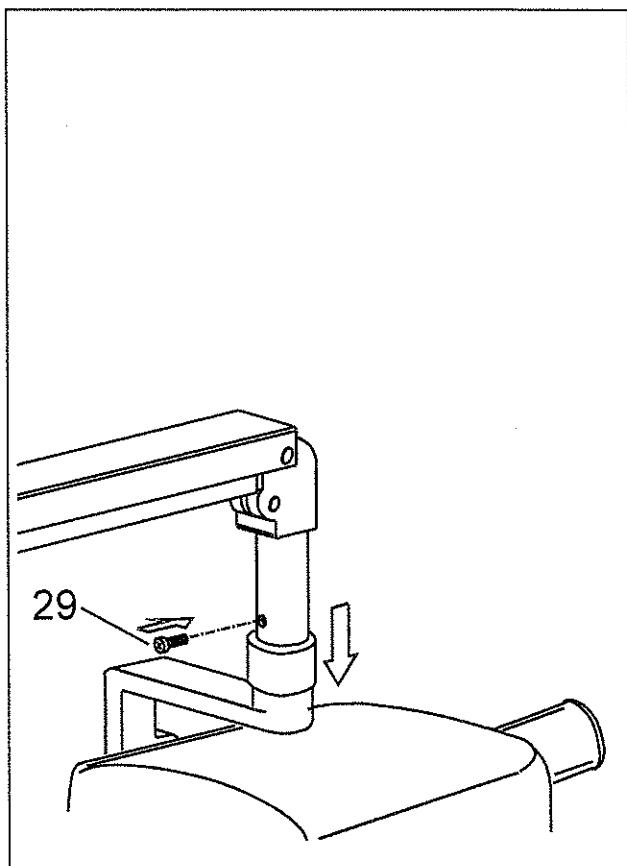

Figure 14 Tubehead mounting - 2
- c) Push pivot in to have the safety "C" clip fitting into pivot slots. Now lower sleeve onto the "C" clip (Figure 14, page 27).